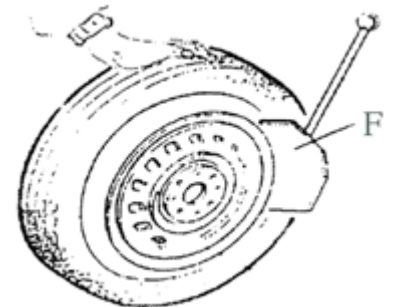

Fig 5
Ensure to exhaust the air in the tire completely, place the tire against the rubber buffer (S). Bring the paddle against the bead about 10mm from the edge of the rim shown as **Fig 5**. Tread Bead breaker Pedal (U) to push paddle into tire. Repeat the above operations on different positions around the tire and both sides of tire until tire bead is released completely.